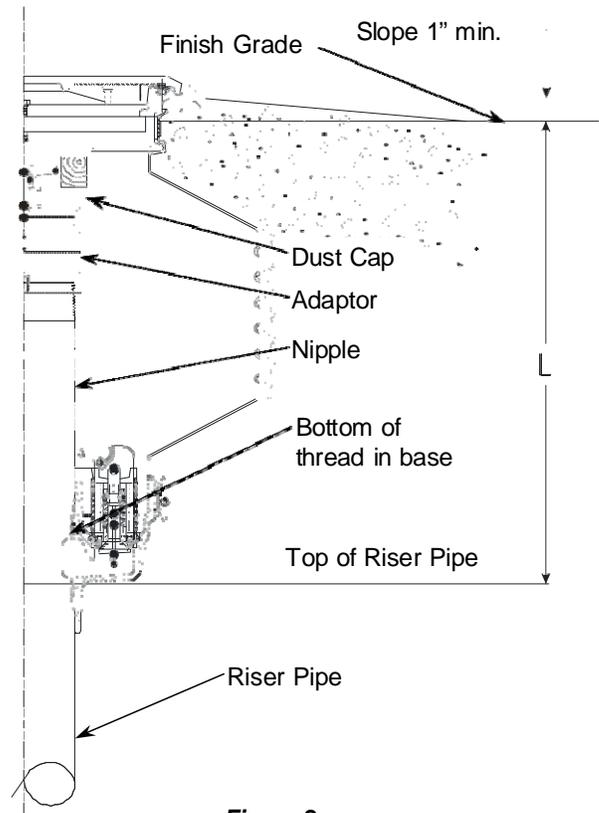

Figure 2
Step 7: (See Figure 2)
Step 10: (See Figure 2)
splash. Double check that the unit is level and at proper grade height. Pour concrete per figure 2. Ramp or dome the concrete away from the mounting ring. There should be a minimum of 1" slope to finish grade. The concrete surface should start at the bottom edge of the watershed slots and tapered down to grade level.